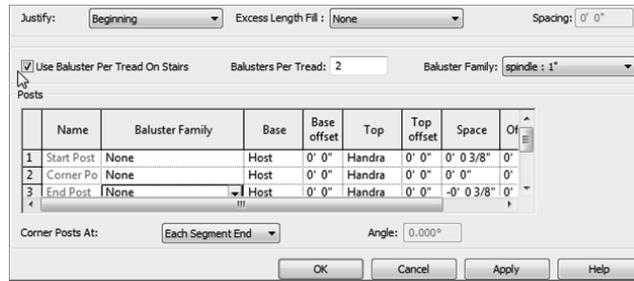

FIGURE 10.58: Specifying two balusters per tread and no actual posts
21. Just below the Main Pattern area is the Use Baluster Per Tread On Stairs option. Select it, as shown in Figure 10.58.
22. To the right is the Balusters Per Tread field. Specify two balusters per tread (see Figure 10.58).
23. Change Baluster Family to Spindle: 1" (25 mm), as shown in Figure 10.58.
24. In the bottommost field is the Posts category. Change each of the three posts to None in the Baluster Family column. Your spindles are all you need (see Figure 10.58).